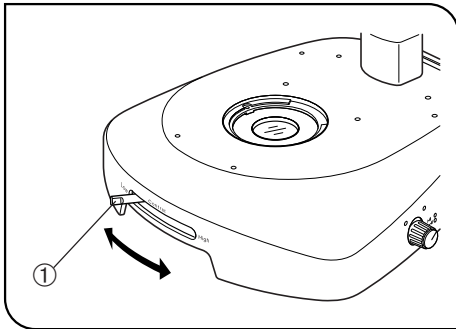

Fig. 8
**6 Contrast Selector Lever** ILLB (Fig. 8)